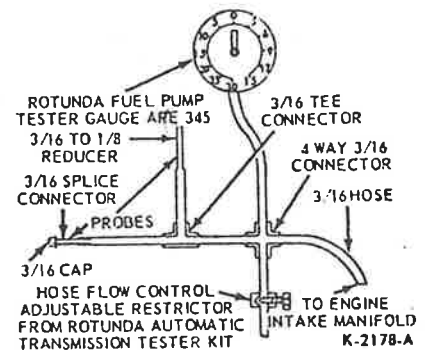

FIG. 7—Vacuum Test Probe
3. Attach a vacuum gauge to one of the 4-way connector nipples (Fig. 7).
to the two open ends of the Tee connector (Fig. 7). Install a 3/16 - 1/8 reducer in one hose and a 3/16 splice connector in the other hose. By adding or removing connectors (splices) to these test probe hoses, they can be connected to any 3/16-1/8 hose, nipple, or connector, while the other test hose is plugged, or both the 3/16 and 1/8 tester probes can be used at the same time.